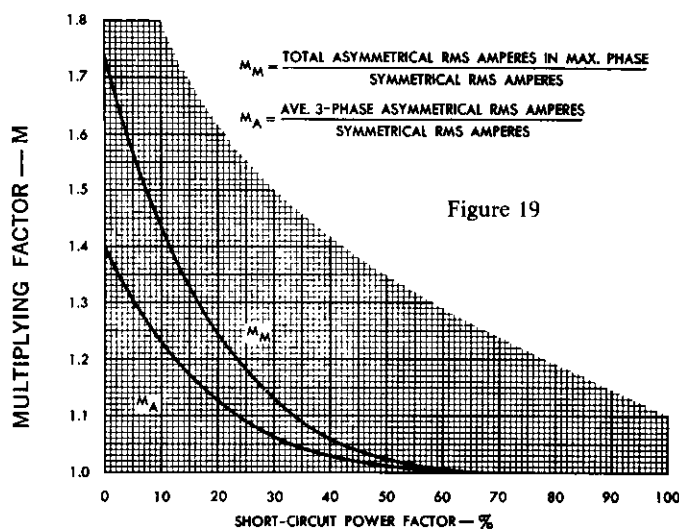

Figure 19
8. Asymmetrical short-circuit currents, if desired, can be found from the symmetrical values above by using a multiplying factor read from Figure 19 and corresponding to the short-circuit power factor at the point of fault. Use the multiplying factor from Curve  $M_A$  to find the average 3-phase asymmetrical amperes and Curve  $M_M$  to find the